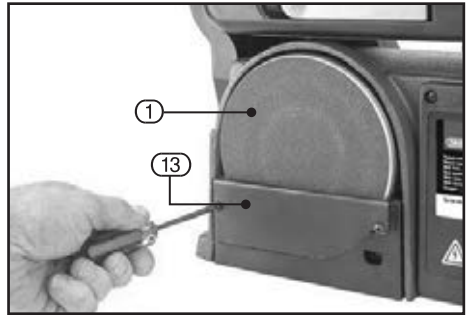

FIG.1
8.1 INSTALLING DISC COVER - FIG. 1